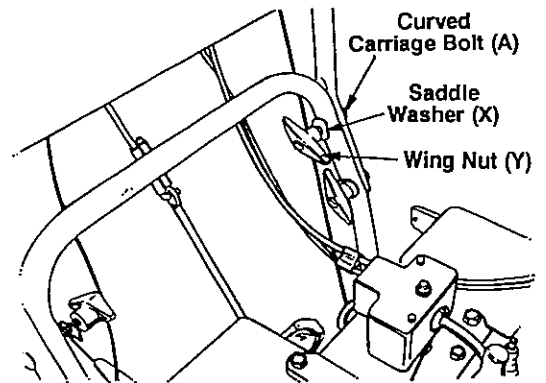

FIGURE 6
- Raise the upper handle assembly until it locks over the lower handle. Secure the upper holes in the handles with the remaining carriage bolts, saddle washers and wing nuts. See figure 6.
- Place one flat washer (AA) on the end of the lower chute crank then, insert the end of the crank into the hole in the plastic bushing in the chute bracket. See figure 6. Secure with remaining flat washer (AA) and cotter pin (G) (5/16" diameter).
- With the hex nuts loosened on the chute crank support bracket adjust the chute bracket (see figure 6) so that the spiral on the chute crank fully engages the teeth